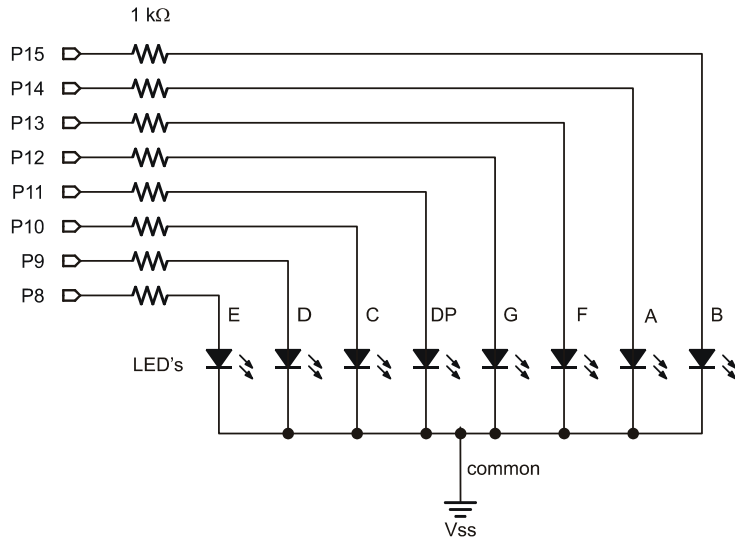

Figure 7-9
Figure 7-9 shows the 7-segment LED display and phototransistor circuit schematics that will be used to make the light meter, and Figure 7-10 shows a wiring diagram of the circuits. The phototransistor circuit is the same one you have been using in the last two activities, and the 7-segment LED display circuit is the same one from Figure 6-11 on page 176.
- ✓ Build the circuit shown in Figure 7-9 and Figure 7-10.
Wiring Diagram for Figure 7-9